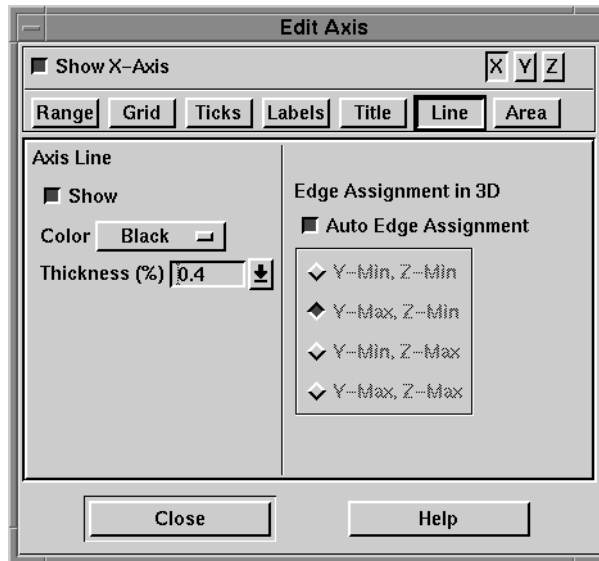

Figure 17-11. The Line page of the Edit Axis dialog.
2. Choose the Line button (Line tab in Windows) to call up the Line page of the Edit Axis dialog, shown in Figure 17-11.